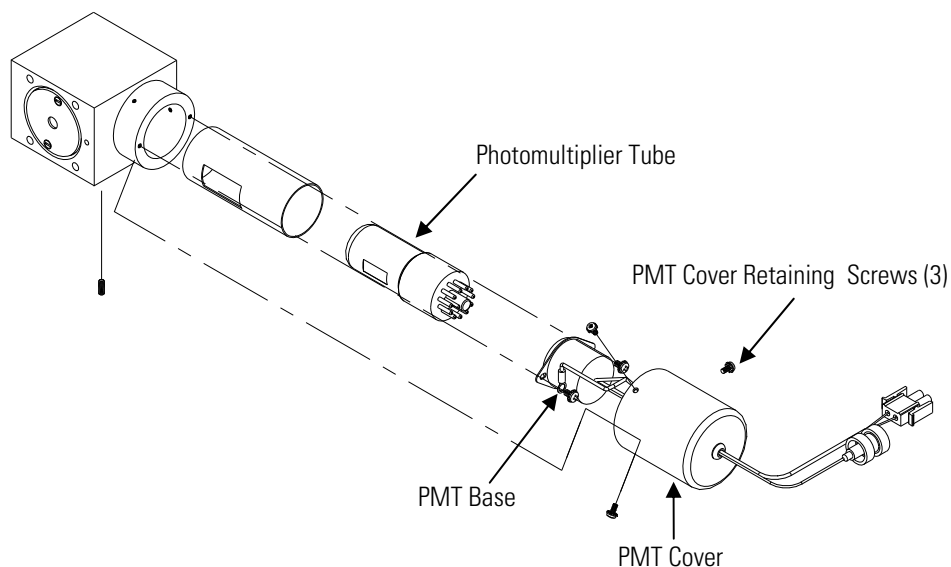

Figure 7–8. Replacing the PMT
3. Remove the three retaining screws holding the PMT cover to the PMT housing, and pull back the cover to access the two PMT base retaining screws (**Figure 7–8**).